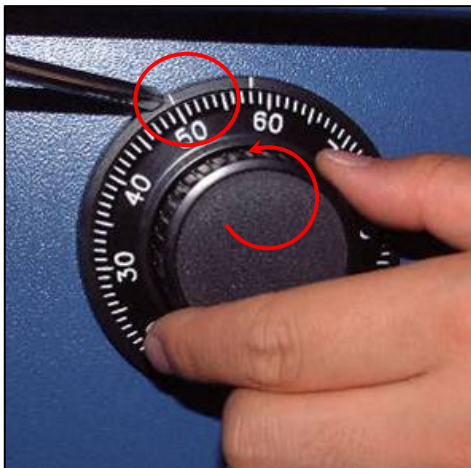

Fig.4.3
- 5) Turn to the counterclockwise and stop at "50" at the second times as shown in the Fig.4.3.